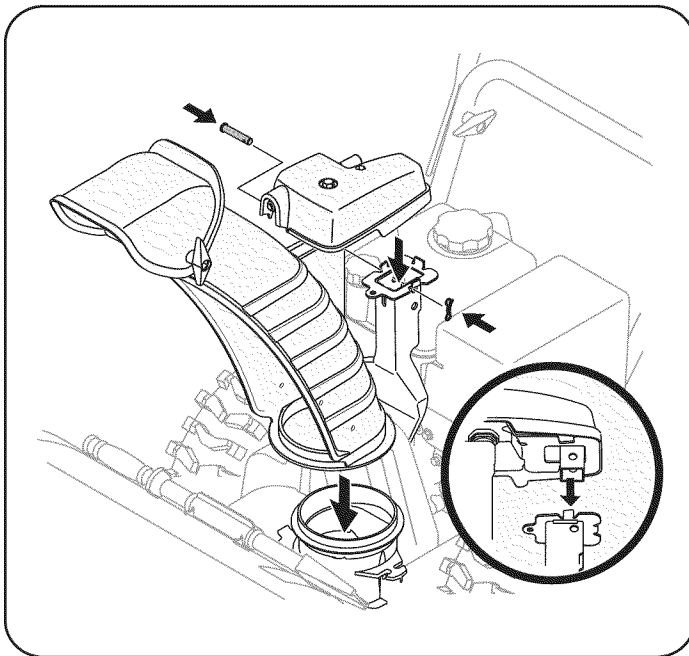

Figure 5
6. Place chute onto chute base and secure chute control head to chute support bracket with clevis pin and cotter pin removed in Step 5. See Figure 5.